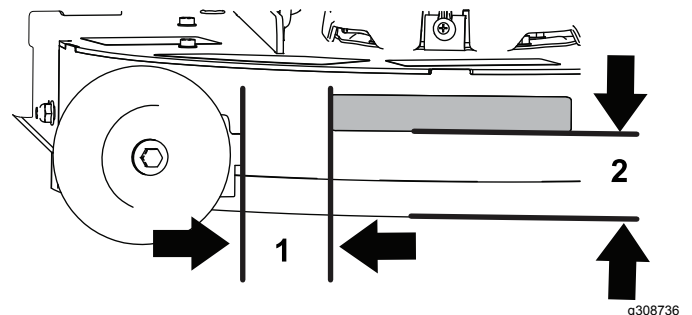

Figure 4
1. Install the decal to the mower deck in the location shown in Figure 4.